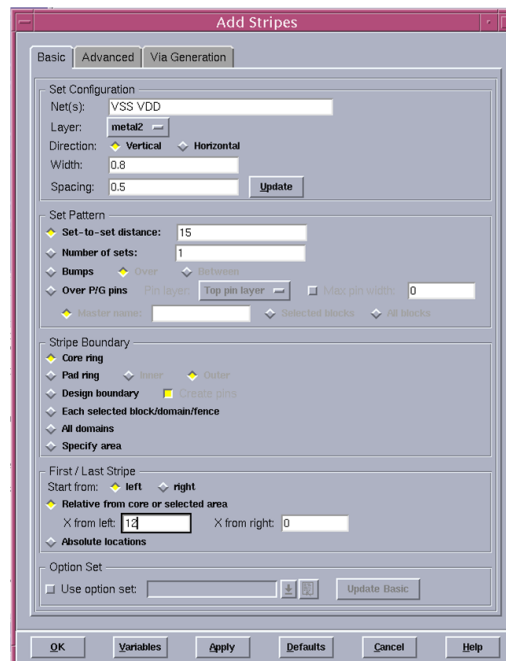

Figure 29: Add Stripe Config
- Power->Power Planning->Add Stripe (Figure. 29)